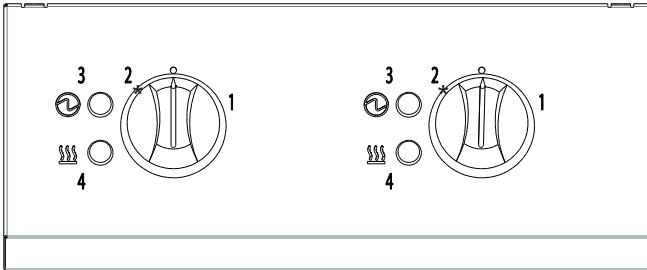

Figure 2 – E421/421F/421F2 Control Panel
2.3.1 E421/E421F/E421F2 Fryer Control Panel (See Figure 2)